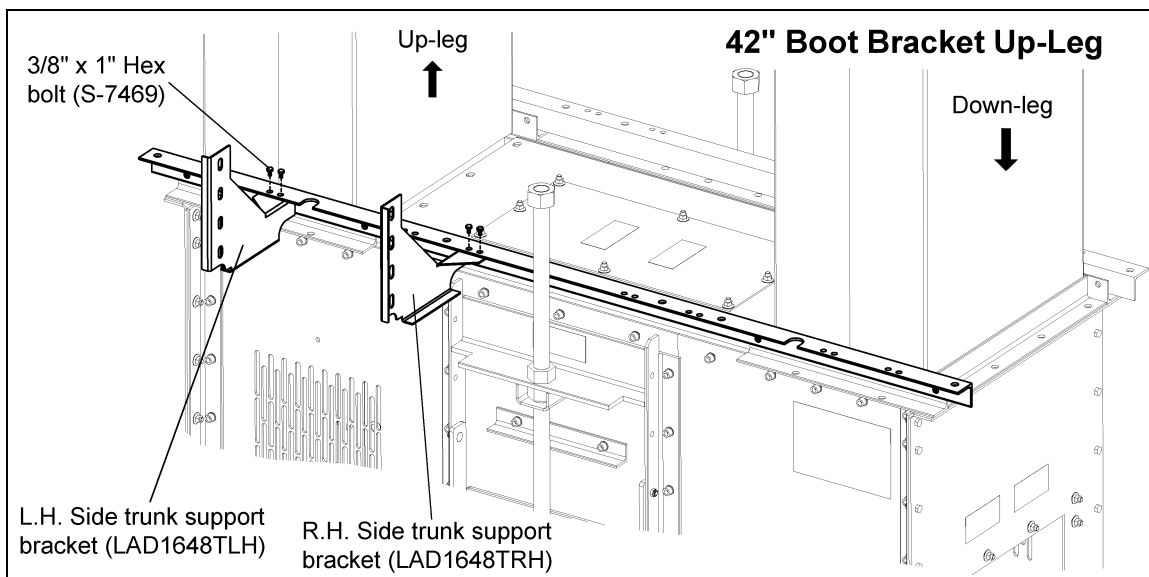

Figure 6C 42" Up-Leg Boot Bracket
1. **42" Up-Leg Boot Brackets:** Use 3/8" x 1" HHCS bolts (S-7469) and 3/8" flange nuts (S-10028) to attach the ladder support brackets (LAD1648TRH and LAD1648TLH) to the bottom of the boot tie angle using holes indicated. (See Figure 6C.)